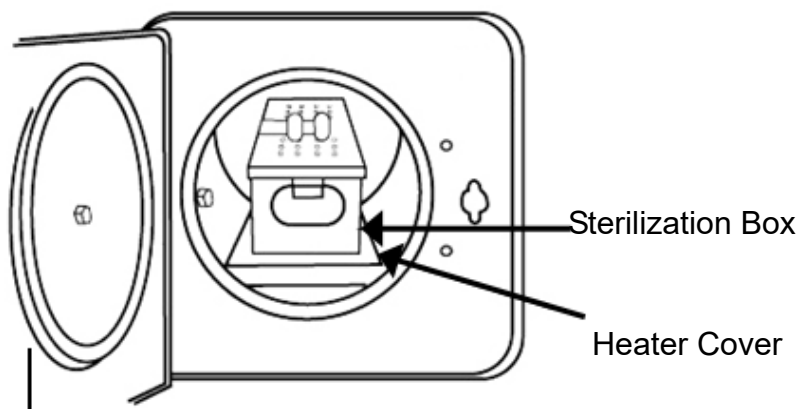

Figure 29 – Sterilization Box
- C. Install the Sterilization Box as Figure 29. (standard accessory)